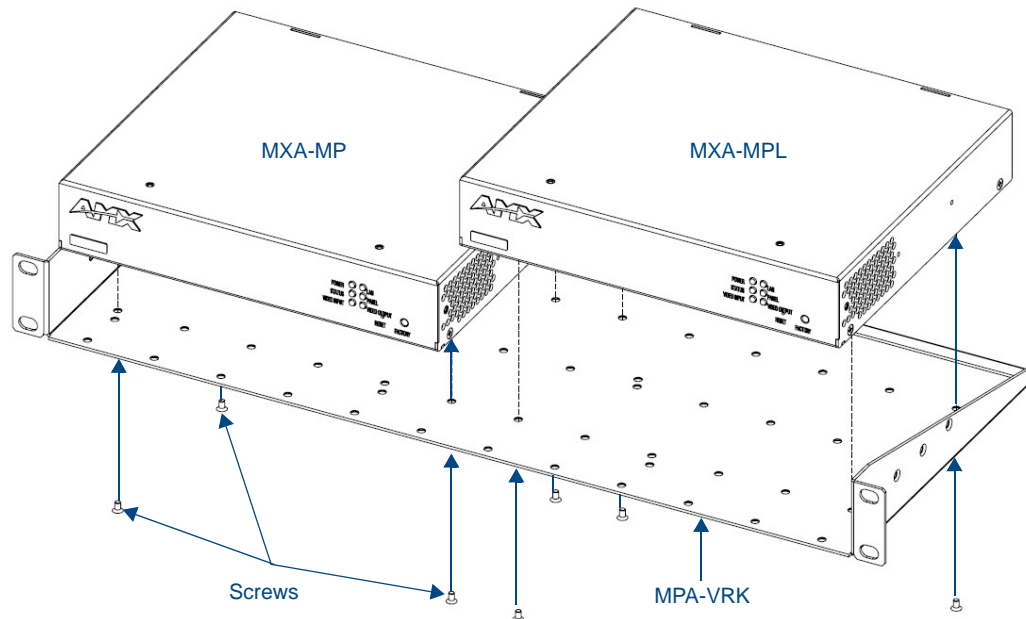

FIG. 8 Installing two MXA-MP devices in a Rack Mounting Tray
2. Using the installation screws included with the MPA-VRK, install the screws to the bottom of the device through the Rack Mounting Tray (FIG. 8). Use four screws for each device, with one at each corner.